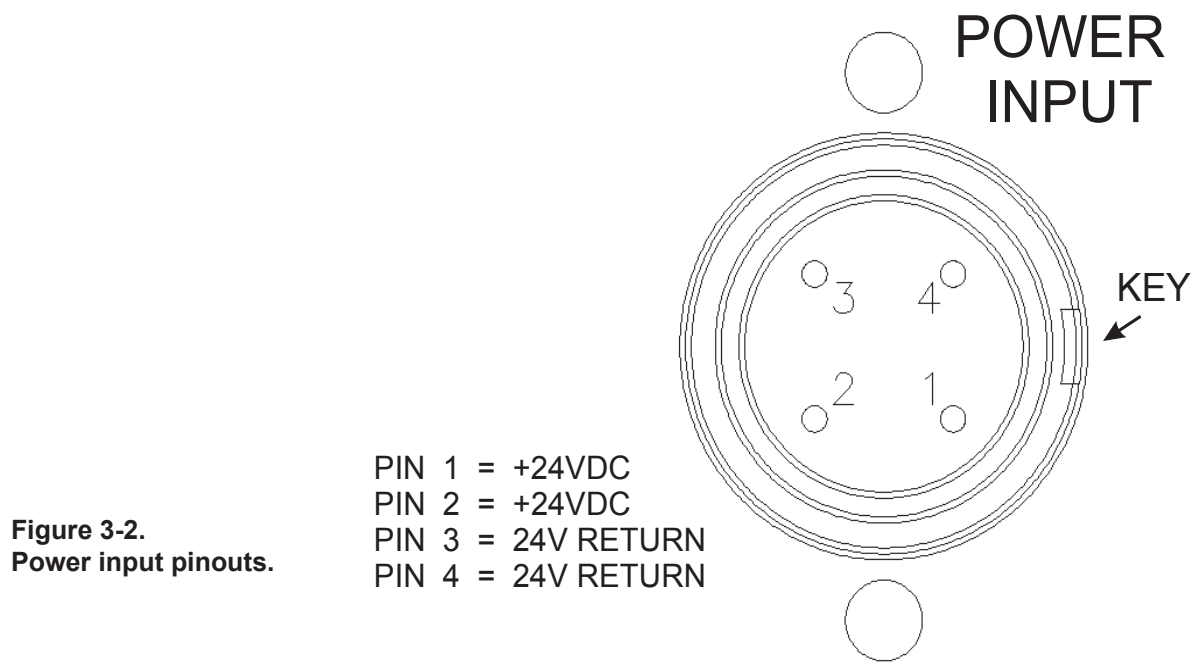

Figure 3-2.
The LC-D requires 24 Volts DC (± 1 Volt) and 3.2 Amps. If you have your own 24-Volt DC power supply, Figure 3-2 shows the pinouts for the LC-D power-input connection. A braided, shielded cable is recommended. If you purchased the Dycor DC power supply module, follow the directions below to connect to the AC line power.
3. Push the outer ring over the connector and rotate clockwise until the ring locks in place (Figure 3-2). The Dycor DC power supply model accepts either 110 or 220 Volts, 50/60 Hz AC input.